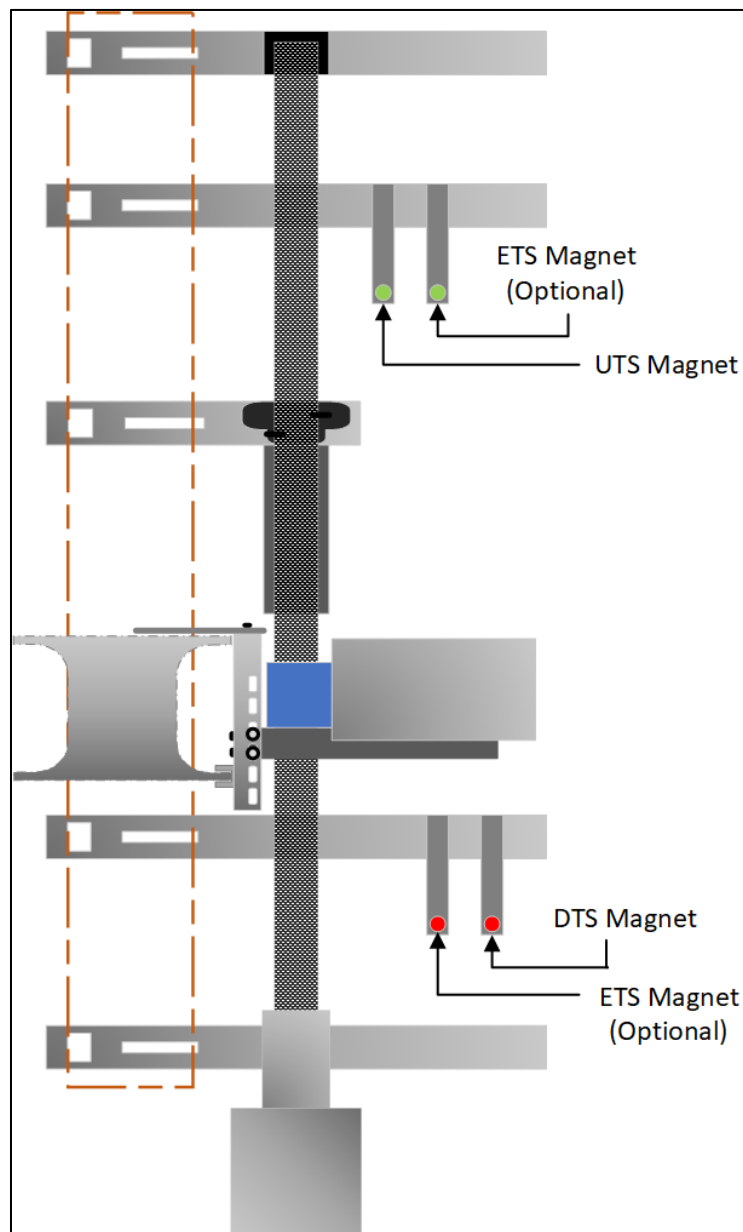

Figure 2-14: Mounting Brackets for UTS, DTS, and ETS
- When the elevator is at floor level the door zone bridge should be positioned at the midpoint between the two APS cameras. See Figure 2-14. The exact positioning of this bracket and guide clip will be set in section 2.9.2.4.